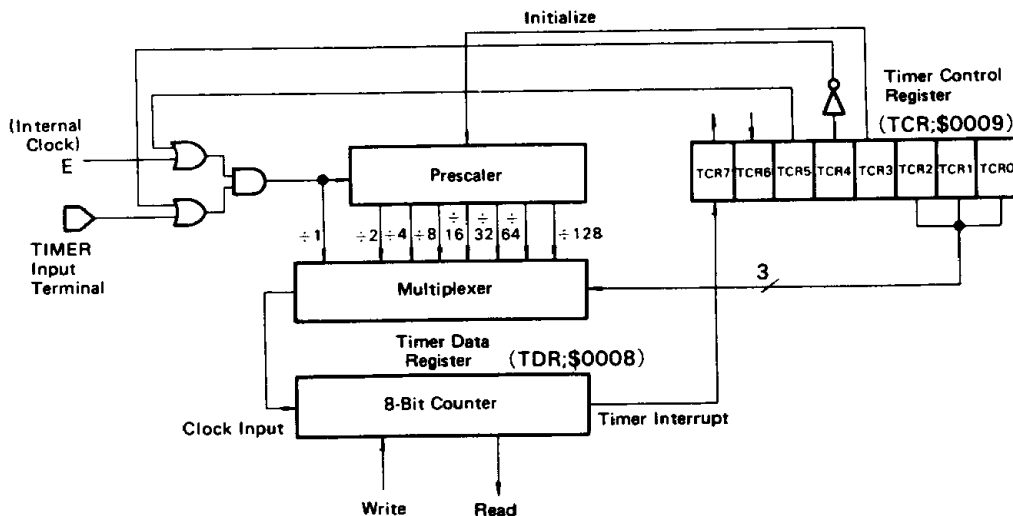

Figure 9 Timer Block Diagram
Figure 9 shows an MCU timer block diagram. The timer data register is loaded by software and, upon receipt of a clock input, begins to count down. When the timer data register (TDR) becomes "0", the timer interrupt request bit (bit 7) in the timer control register is set. In response to the interrupt request, the MCU saves its status into the stack and fetches the timer interrupt routine addresses \$1FF8 and \$1FF9 (or \$1FF6 and \$1FF7 when the timer interrupt occurs during the wait mode) and executes the interrupt routine. The timer interrupt can be masked by setting the timer interrupt mask bit (bit 6) in the timer control register. The mask bit (I) in the condition code register can also mask the timer interrupt.